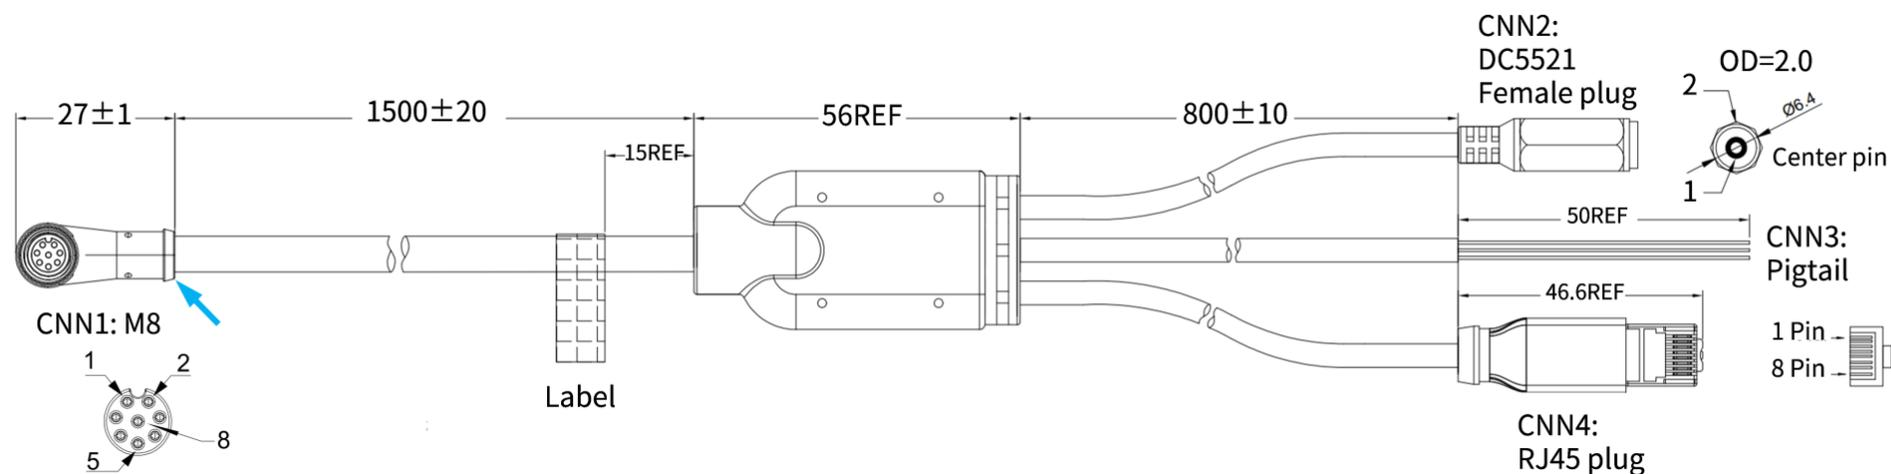

Figure 12. 1-to-3 splitter cable (unit: mm)
- If a right-angle connector is used, the joint between the cable and the connector's overmolded part (see arrow in Figure 12. 1-to-3 splitter cable \(unit: mm\)) can only withstand a lateral force of less than 40 N.